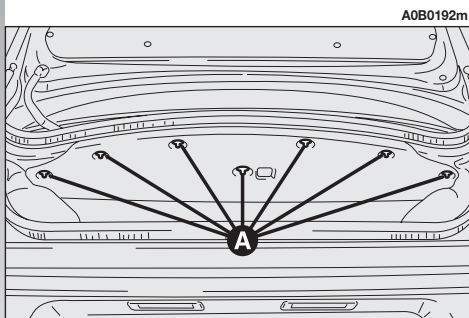

fig. 48
- Turn the fastening buttons (A-fig. 48) until they release and lower the trim.
– Re-position the trim correctly and fasten with its buttons (A-fig. 48).